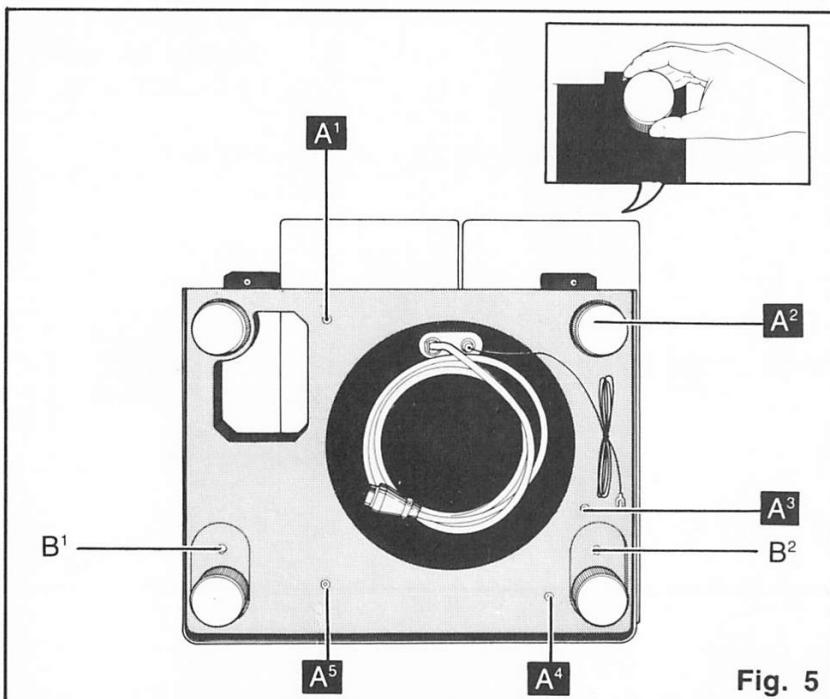

Fig. 5
④ Remove one of the insulators/legs. (Fig. 5)
⑤ Fit washers onto this unit's mounting screws (M5×35) and screw in securely at the five points A¹ ~ A⁵. (Refer to Fig. 5.)
Insulator/legs can also be attached at the two points B¹ and B² if necessary to match installation area (front to rear). (Refer to Fig. 5.)